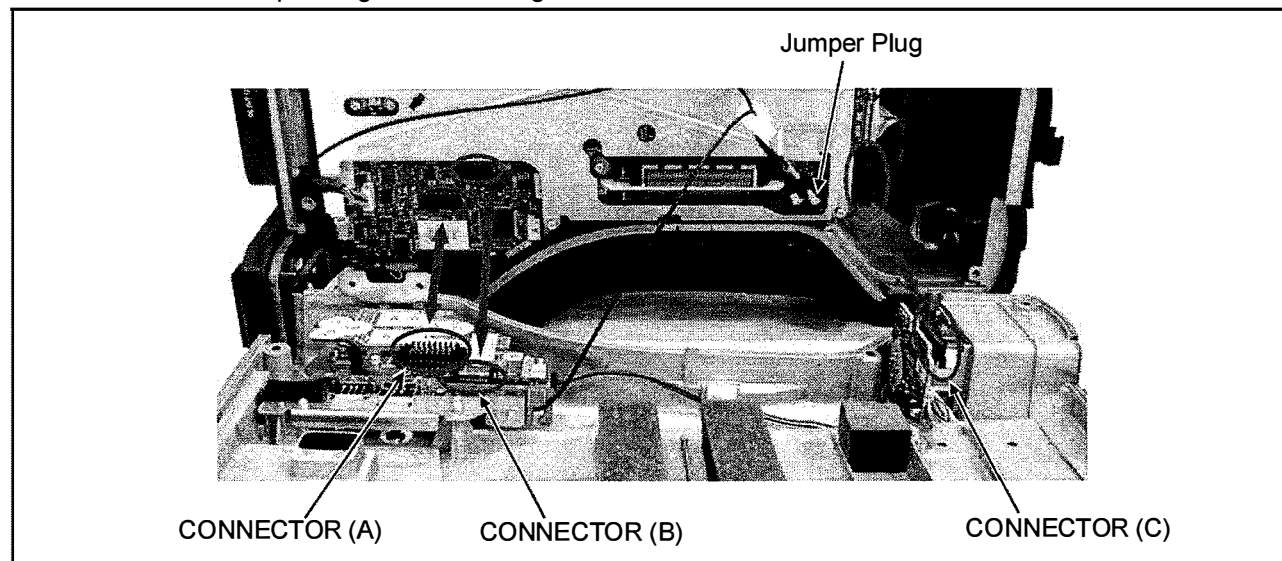

Figure 2-3
NOTE: The connector (A), (B) and (C) as shown in figure 2-3 combined with the connectors on DIGITAL MAIN P.C.B..
3. Disconnect the Jumper Plug as shown in figure 2-3 and remove the SIDE CASE L Unit.